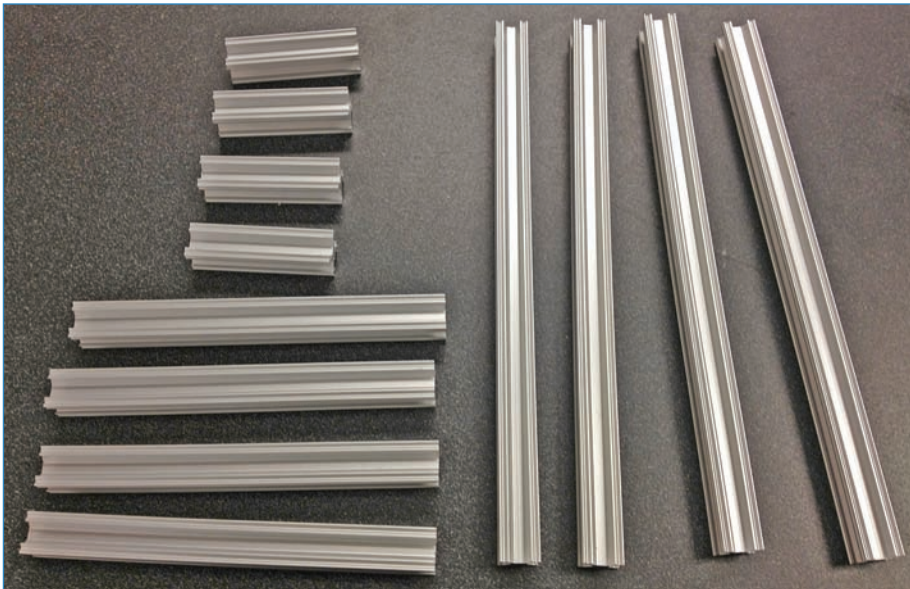

FIGURE 3.28 MicroRAX beams come in a variety of pre-cut lengths; I used 40mm, 100mm, and 160mm beams to build my enclosure.
2. Get your beams together. I used four each of 40mm, 100mm, and 160mm beams (see Figure 3.28) but make yours however you want.